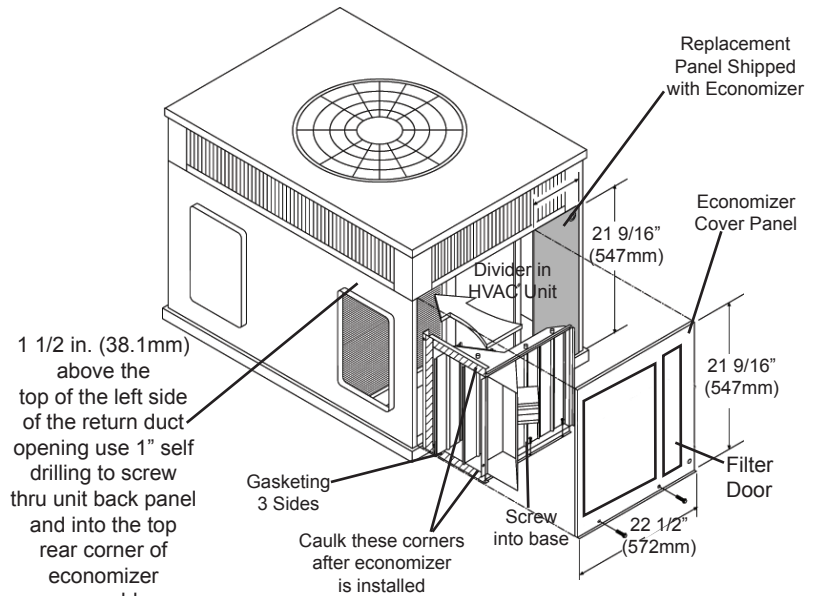

Fig. 6 - Economizer Installation
10. Install the 5/8" gasketing on the duct side flanges of the economizer, see Fig. 6. Turn the economizer on its side (Fig. 6.) Slide economizer into cabinet and as far to the left as possible. The economizer will set against the left side of the unit and will cover the horizontal return air opening. Caulk as required.
11. Install the replacement return chamber panel over the economizer assembly and underneath the drip flange on the HVAC unit. Line up the bottom left hole on the panel with the hole in the bottom of the economizer and the mating hole in the base of the HVAC unit. Insert screw, which will hold all parts in place. Insert screws on bottom and right of panel as well. See Fig. 6.
12. At a location 1 1/2 in. (38.1mm) above the top of the left side of the return duct opening use 1" self drilling to screw thru unit back panel and into the top rear corner of economizer assembly (Fig. 6).